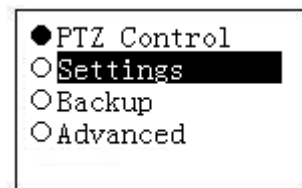

Figure 2-14
- User: The user has the PTZ control, system setup, backup, advanced setup and etc. Move the cursor to the corresponding item and then use the joystick to move the left/right to turn ○ to ● to enable this function. See Figure 2-14.